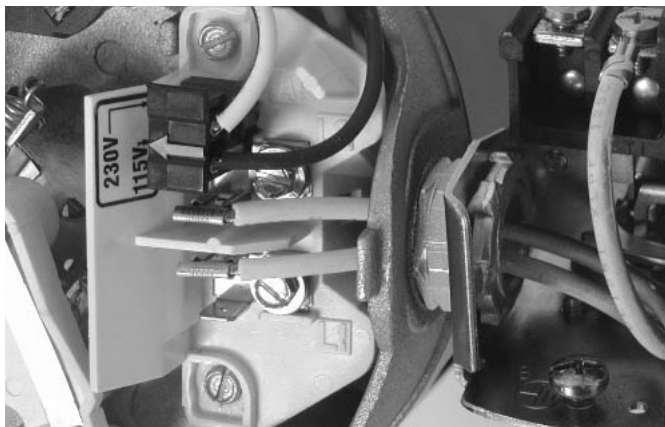

Figure 3: Voltage set to 115 volts, Plug Type
3. Move the voltage change plug to the 115 volt position. The plug will now cover 2 metal tabs and the arrow on the plug will line up with the 115V arrow on the label (see Figure 3).